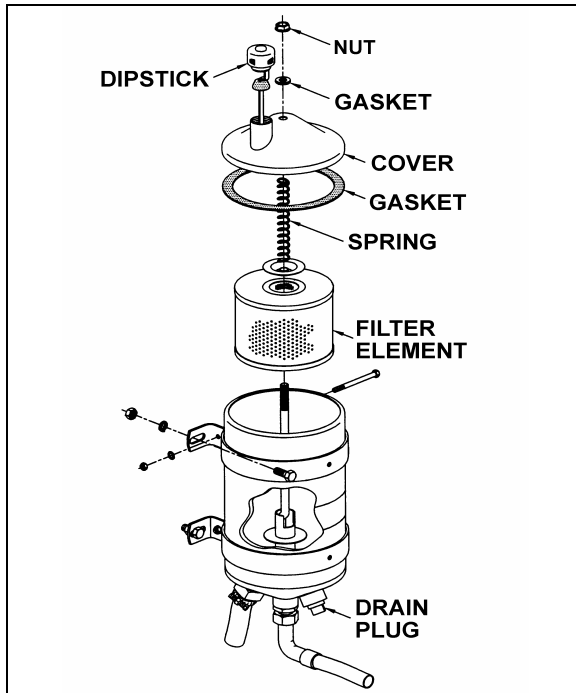

FIGURE 10: POWER STEERING FLUID RESERVOIR
3. Insert dipstick in reservoir. Remove it again to check fluid level (Fig. 10).